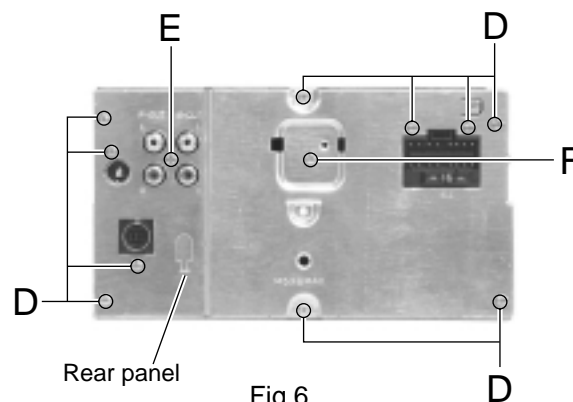

Fig.6
■ Removing the CD player section / cassette player section (See Fig.6 ~ 10)